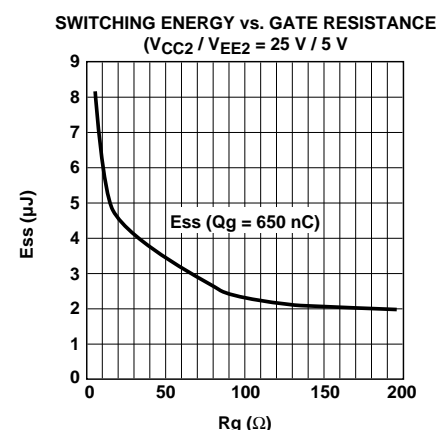

Figure 77. Switching Energy Plot for Calculating Average P_{switch} (for HCPL-316J Output Driving an IGBT Rated at 600 V/100 A).
2. Calculate total power dissipation in the part referring to Figure 77.
For $R_G = 10.5$, the value read from Figure 77 is $E_{SWITCH} = 6.05 \mu\text{J}$. Assume a worst-case average $I_{CC1} = 16.5 \text{ mA}$ (which is given by the average of I_{CC1H} and I_{CC1L}). Similarly the average $I_{CC2} = 5.5 \text{ mA}$.
P_i = 90.8 mW, P_o = 314 mW, T_A = 100°C, and assuming the thermal model shown in Figure 77 below.